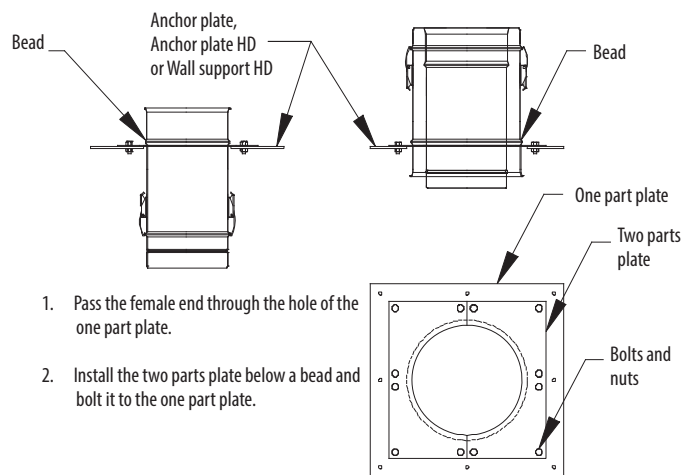

Figure 9 - Position of Support
1. For Anchor Plate (AP) / Anchor Plate Heavy Duty (APHD) / Wall Support Heavy Duty (WSHD), the support must be installed below a bead. See Figure 9.
2. For Wall Support (WS) / Roof Support (RS), the support can be installed anywhere on the part.